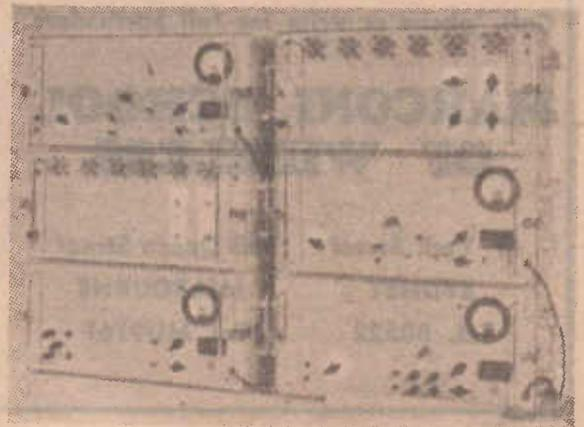

Fig. 3—Portable Television repeater-equalizer equipment for telephone cables.
The two main effects produced by such lines are (1) attenuation of the higher frequencies and (2) the introduction of some phase distortion. Both of these have been overcome by the use of specially designed portable repeater-equalisers (Fig. 3) inserted every  $1\frac{1}{2}$  miles (about 2.5 k.m.) in the telephone lines. With the aid of these, up to 8 miles (about 13 km) of ordinary telephone lines are now regularly used for outside broadcasts from theatres, sports grounds and so on—a very notable advance in the technique of television transmissions.